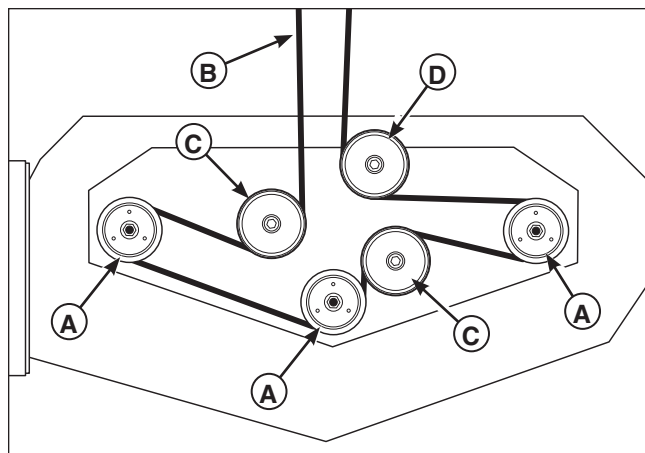

Figure 28. Mower PTO Belt Routing
- Slide the drive belt over the edge of the stationary idler pulley (B). Carefully release the tension on the breaker bar until the idler arm comes to a stop.
- Unhook the idler tension spring (C) from the anchor bolt (D). Remove the old belt and replace with a new one. Make sure the V-side of the belt runs in the pulley grooves.
- Install the drive belt on the PTO pulley, the spindle pulleys, and all idler pulleys except the stationary pulley. Rehook the idler tension spring from the anchor bolt. Carefully rotate the breaker bar COUNTER-CLOCKWISE and install the belt on the stationary idler pulley. Carefully release the tension on the breaker bar. The belt should be routed exactly as shown in Figure 28.